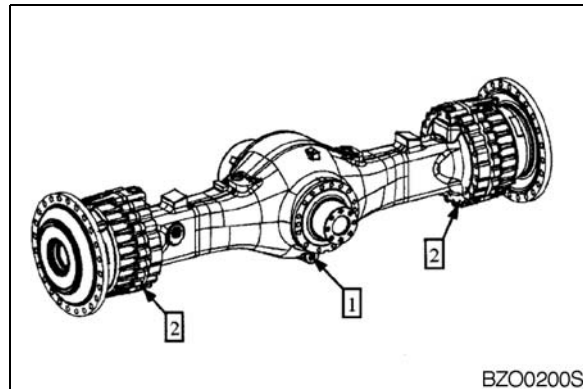

Figure 84 REAR AXLE
NOTE: *Plug Size (1, Figure 84):
*Plug Size (2, Figure 84):